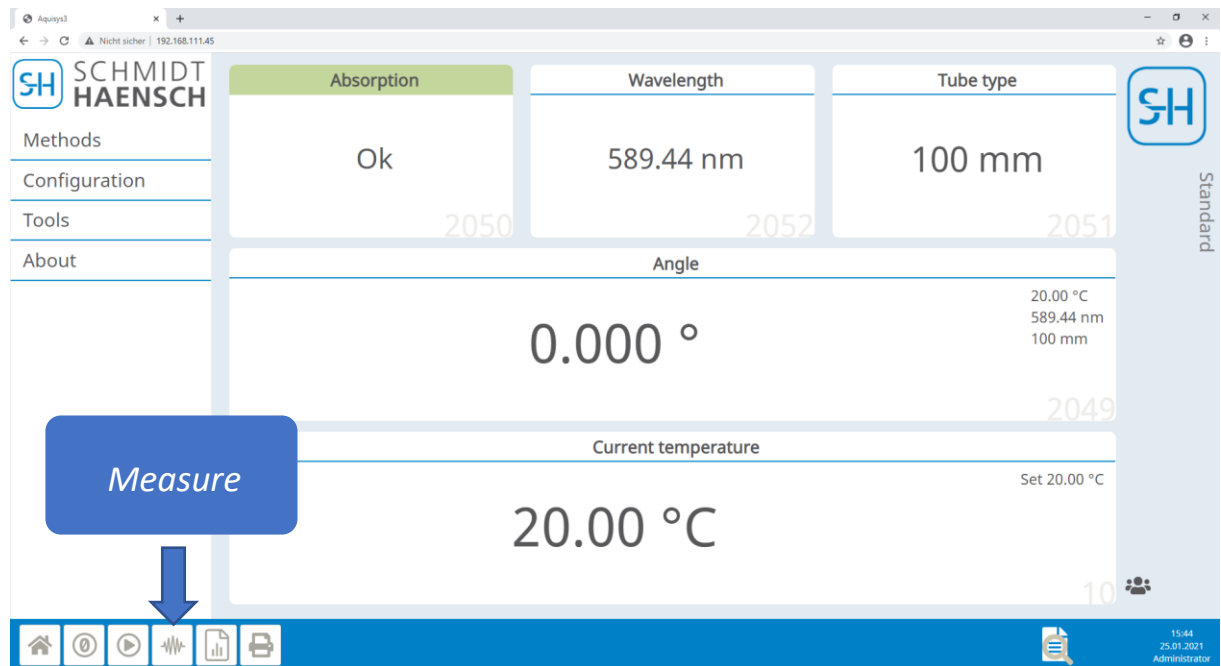

Figure 3: Start standard method measurement
- In order to be able to detect a change in your measured values, you must start a measurement again after each change in the setting (see Fig. 3).